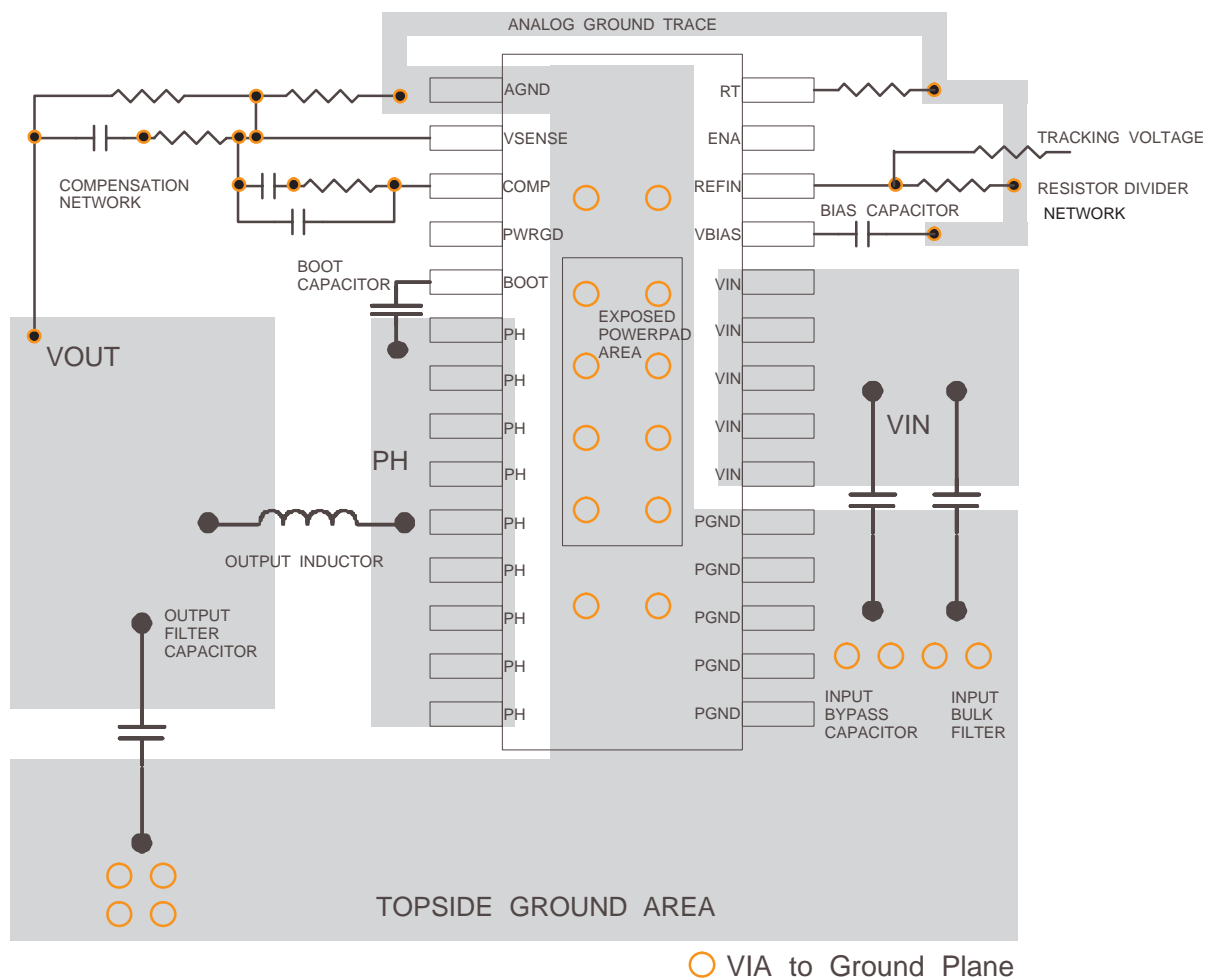

Figure 8. TPS54872 PCB Layout
(1) Specified by design
(2) Static resistive loads only
(3) Specified by the circuit used in Figure 8
Figure 8 shows a generalized PCB layout guide for the TPS54872. The VIN pins should be connected together on the printed circuit board (PCB) and bypassed with a low ESR ceramic bypass capacitor. Care should be taken to minimize the loop area formed by the bypass capacitor connections, the VIN pins, and the TPS54872 ground pins. The minimum recommended bypass capacitance is 10 μ F ceramic with a X5R or X7R dielectric and the optimum placement is closest to the VIN pins and the PGND pins.